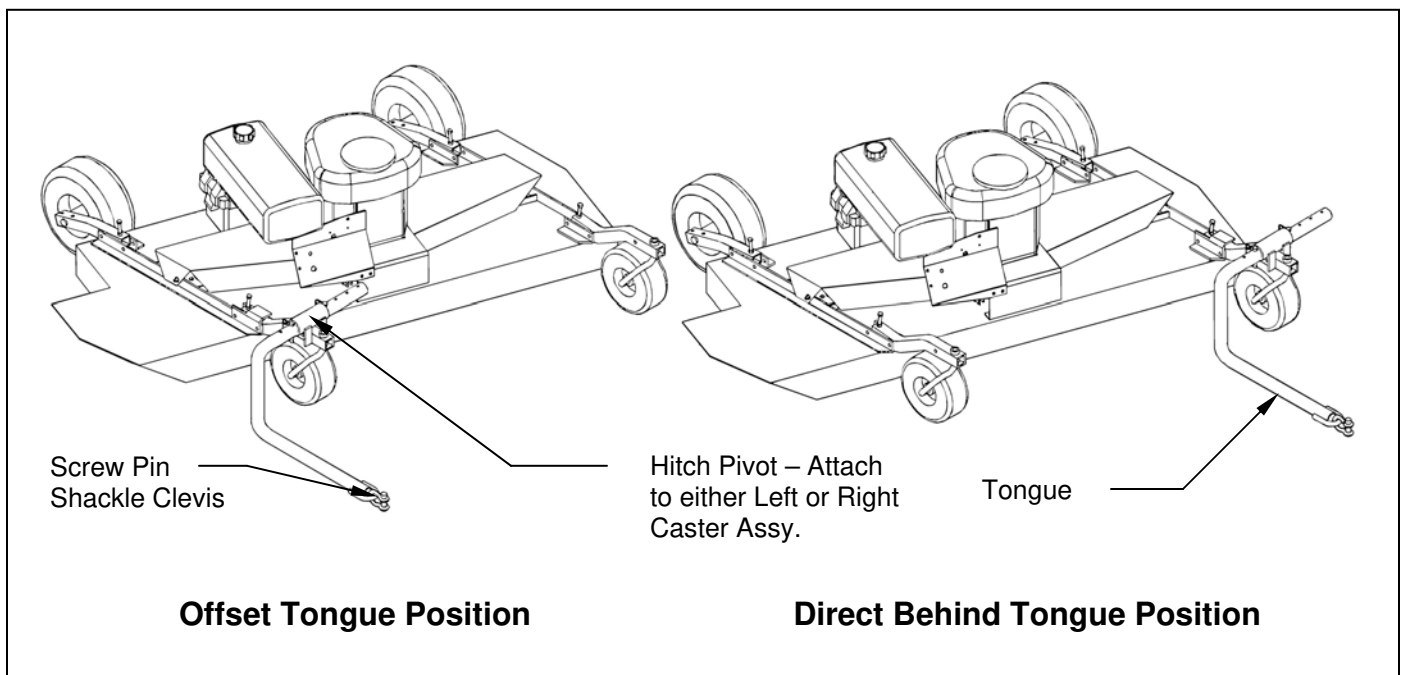

Figure 4. Assembly of Hitch Pivot and Tongue
1. The tongue can be installed either on the left or right caster assembly depending on how the wing mower will be towed. **See figure 4.** Secure the hitch pivot on the chosen caster assembly with the 3/8" x 2-1/2" hex head bolt, lock washer, and nut provided.
**Note:** When pulling the wing mower directly behind, it is most maneuverable when the hitch pivot is fastened on the left carrier arm. **See Figure 4.** When pulling the wing mower in the offset position, it is most maneuverable to have the hitch pivot fastened on the right carrier arm. **See Figure 4.**